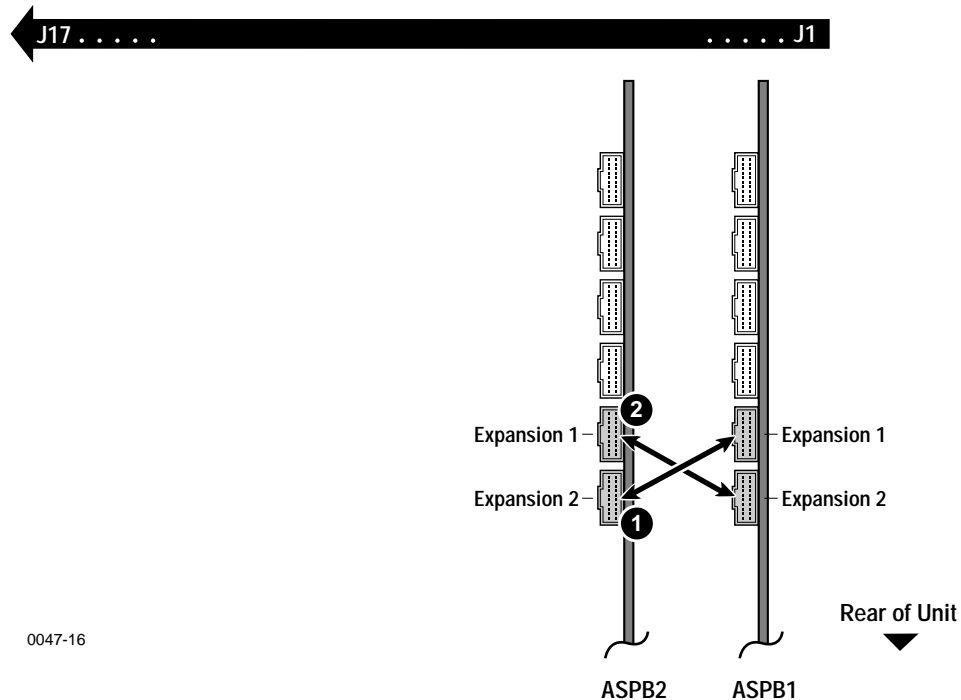

Figure 18. Connecting Sharcnet cables between two ASPBs
2. Connect a Sharcnet ribbon cable from ASPB1 Expansion1 to ASPB2 Expansion2 (❶ in Figure 18).
3. Connect a Sharcnet ribbon cable from ASPB1 Expansion2 to ASPB2 Expansion1 (❷ in Figure 18).